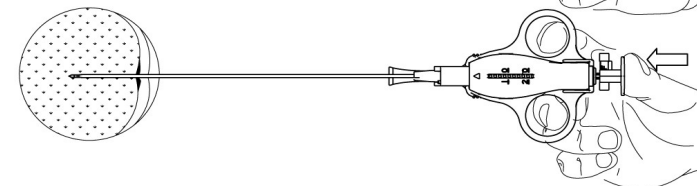

Fig. 6
5. Press plunger past stop with thumb, automatically triggering the cannula to close, trapping the specimen in the sample notch as in fig. 6.